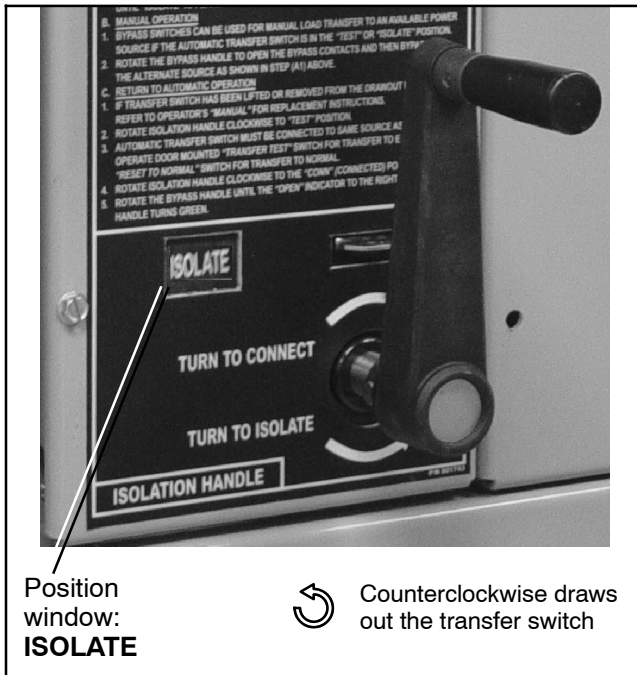

Figure 7-17 Isolation Handle Turned to ISOLATE.
- Continue turning the Isolation Handle counterclockwise (approx. 6 turns) until the window shows ISOLATE. See Figure 7-17. The amber TS Isolated light should come on. See Figure 7-18.